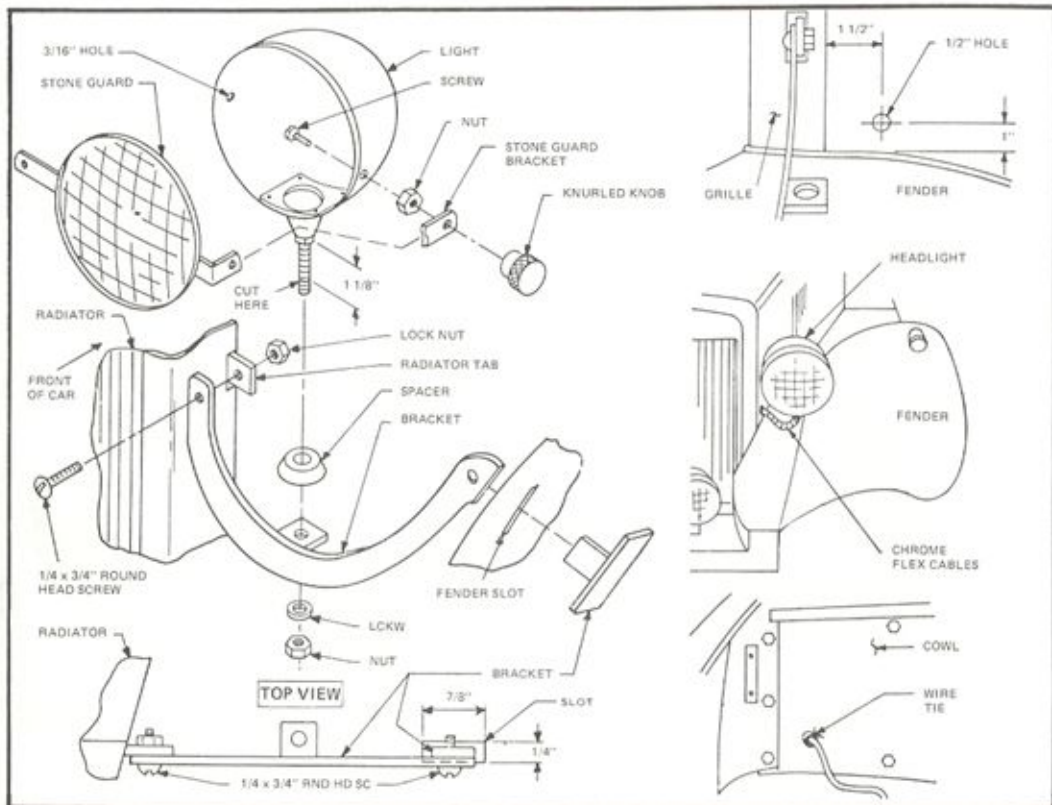

Figure 68
- Refer to Figure 68 and exploded view for general construction. Position the main headlight brackets against the radiator shell and bolt to the brackets previously installed in the shell. (Head light mounting tab must face rearward.) Bolt with 1/4 x 3/4" round head machine screws with locknuts. Hand tighten. At this time make sure the fenders sit at the same height. Adjust them by propping with a length of 2 x 4. Mark the location where the bracket contacts the fender. Cut a slot 7/8 x 1/4" so the slot is adjacent to the rear surface of the bracket. Insert the small fender mounted headlight support from beneath the fender, and bolt to bracket, using 1/4 x 3/4" round head machine screw with lock nut. Tighten all bolts. From underneath the fenders, lay fiberglass matting over the bracket and saturate with resin.